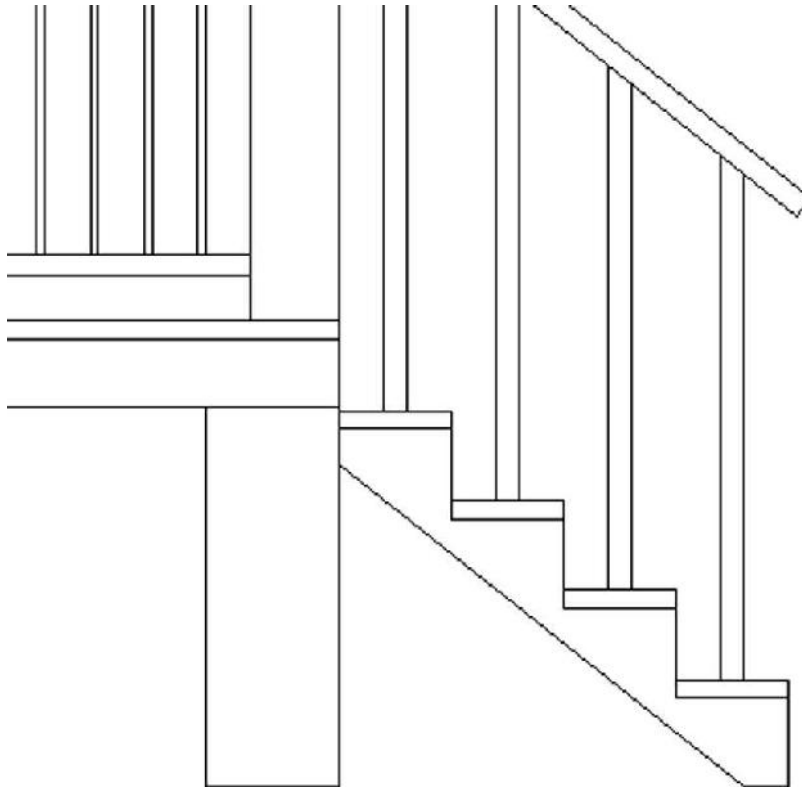

FIGURE 10.32: The extended stringer and the first deck support post
4. Extend the lower stringer line until it intersects the support post, as shown in Figure 10.32.